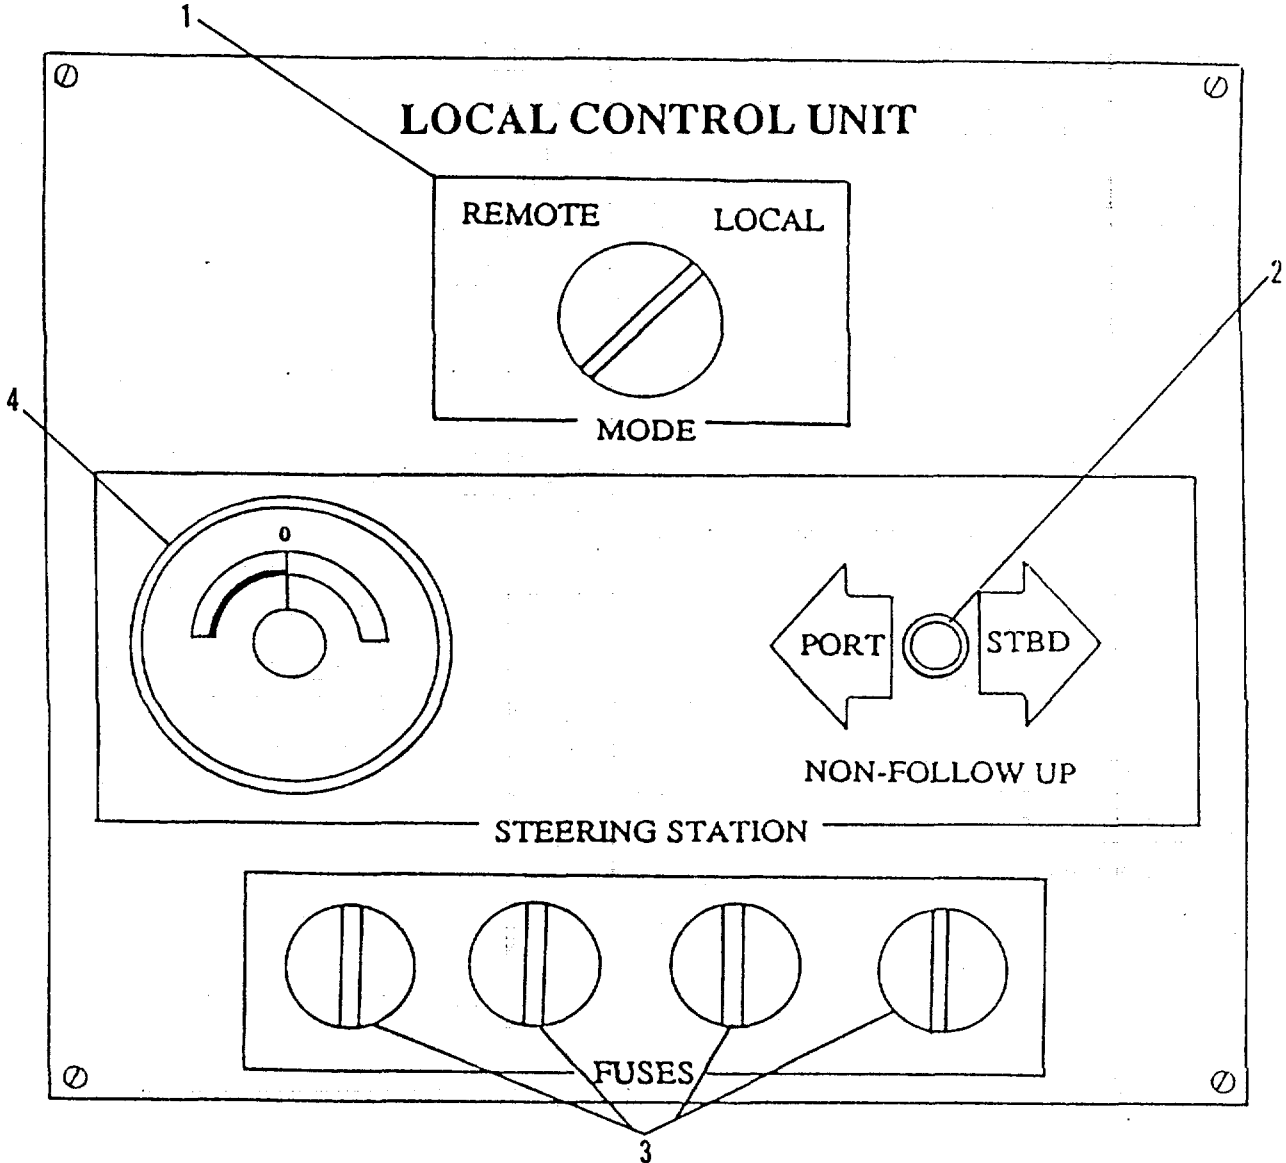

FIGURE 2-149.3. Steering Gear Local Control Unit
- (15) Ensure that the STEERING ROOM LOCAL CONTROL UNIT (FIGURE 2-149.3) , located in the steering compartment, "MODE SELECT SWITCH" (1) is in the "REMOTE" position on each panel.
- (d) Turn the helm counter-clockwise and the rudder will move to port as shown on the RUDDER ANGLE INDICATOR, and on the "RUDDER ORDER INDICATOR" (2).
- (e) Turn the helm clockwise and the rudder will move to starboard as shown on the RUDDER ANGLE INDICATOR, and on the "RUDDER ORDER INDICATOR" (2).
- (f) Direct the operator in the steering compartment to set the STEERING GEAR LOCAL CONTROL UNIT (FIGURE 2-149.3) "MODE SELECT SWITCH" (1) to the "LOCAL" position, and then perform the following:
- 1) Set the "NON-FOLLOW-UP TOGGLE SWITCH" (2) to the "PORT" position, the rudder will move to port as indicated on the "RUDDER ANGLE INDICATOR" (4).
- 2) Set the "NON-FOLLOW-UP TOGGLE SWITCH" (2) to the "STBD" position, the rudder will move to starboard as indicated on the "RUDDER ANGLE INDICATOR" (4).
- 3) Set the "MODE SELECT SWITCH" (1) to the "REMOTE" position.